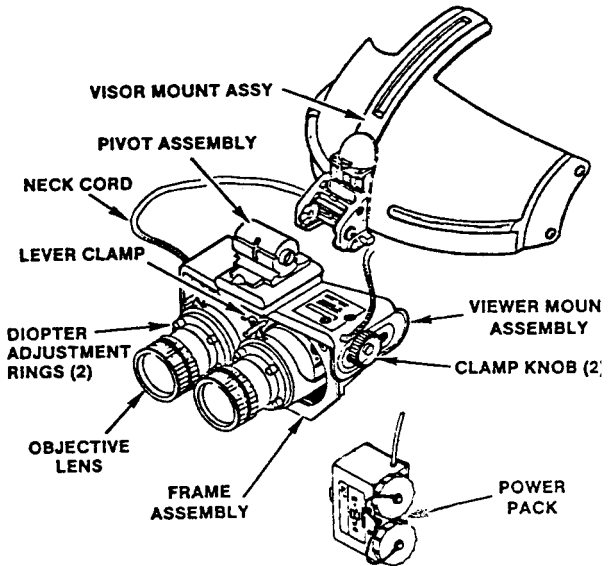

Figure 2-13. Components of NVG, GM-6(V)1 shown with AN/PVS-5C Binocular Assembly, (GM-6(V)2 is similar).
a. Setting the Controls and Adjustment. The GM-6(V)1 and GM-6(V)2 is designed to adjust for differences in head shape and corrects for most differences in eyesight. The controls and adjustments for the GM-6(V)1 and GM-6(V)2 are the same. Familiarize yourself with the illustrated components of the goggles. (fig. 2-13).